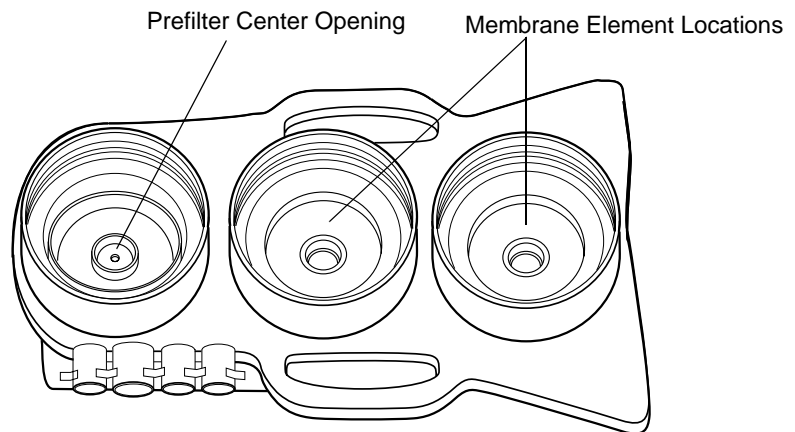

Figure 8
- D. Securely insert O-ring end of elements into manifold. See Figure 8.
B. Pour a tablespoon (15 milliliters) of chlorine bleach into the center opening of the prefilter sump connection. See Figure 8.